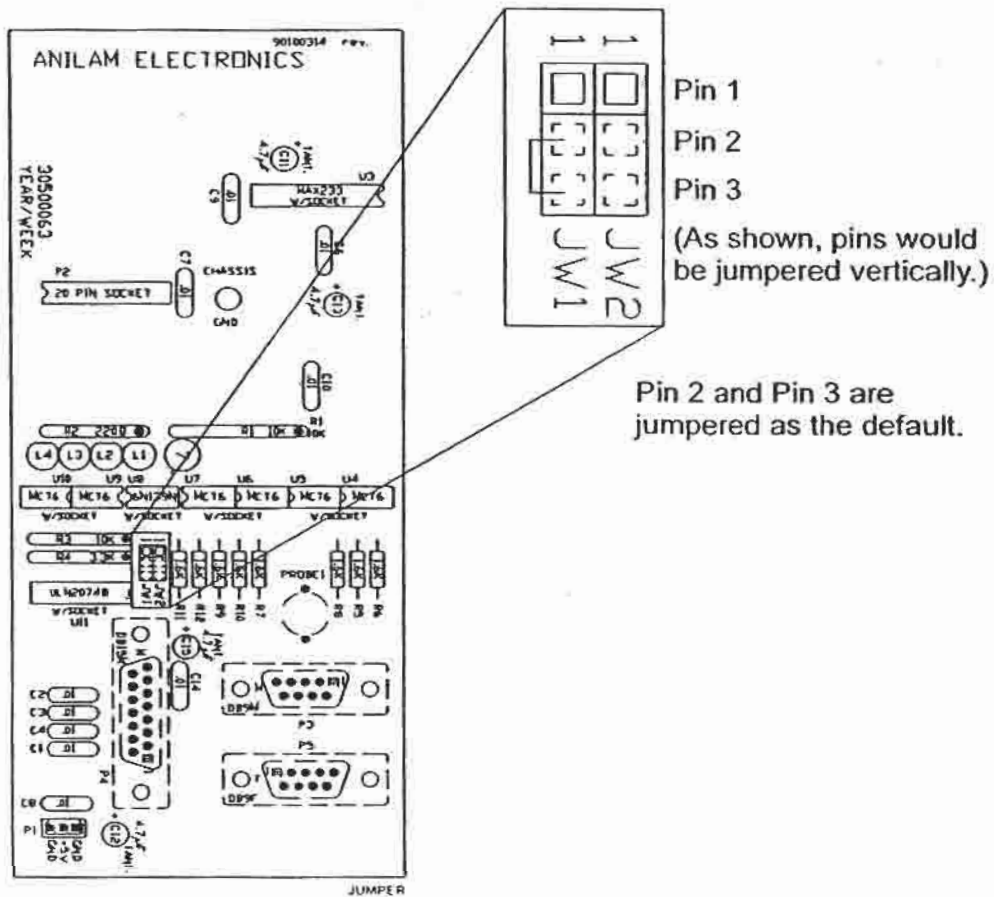

Figure 9, Location of Jumpers
3. Locate the JW1 and JW2 jumpers on the I/O Board (refer to **Figure 9, Location of Jumpers**). Both jumpers are connected across Pins 2 and 3 at the factory. Switch the jumper connections by placing the jumpers for both JW1 and JW2 across pins 1 and 2.